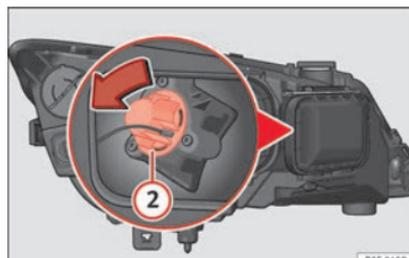

Fig. 209 Turn signal bulb.
- Turn the bulb holder » Fig. 209 ② anti-clockwise and pull.